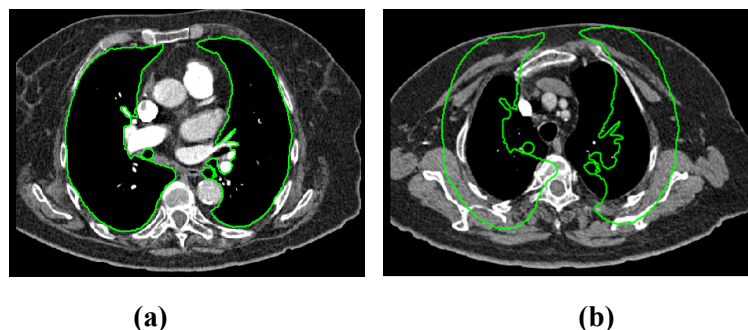

Figure 256 – Contour on the last image (a), Accepted nearest contour from the last image into the 1st image (b)
3. The nearest drawn contour is then automatically copied to the current image (see Figure 256).